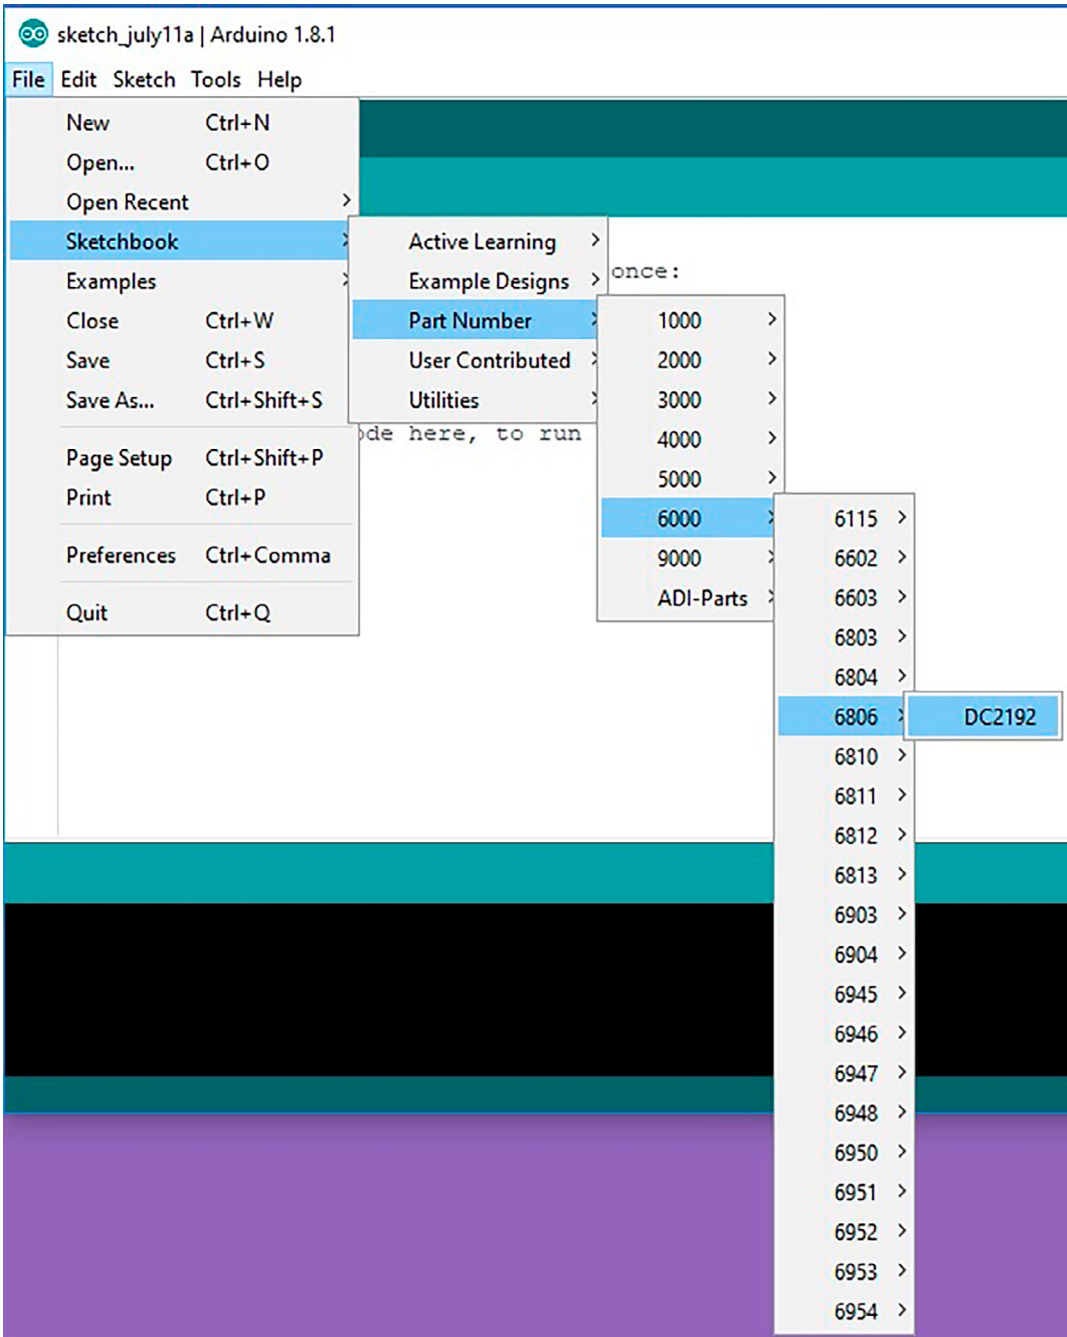

Figure 10. Selecting the LTC6806 Sketch
6. Open one of the programs or **sketches** associated with the DC2192. In this example LTC6806 sketch will be opened. Under the **File** menu, select **Sketchbook** → **Part Number** → **6000** → **6806** → **DC2192** (see Figure 10).